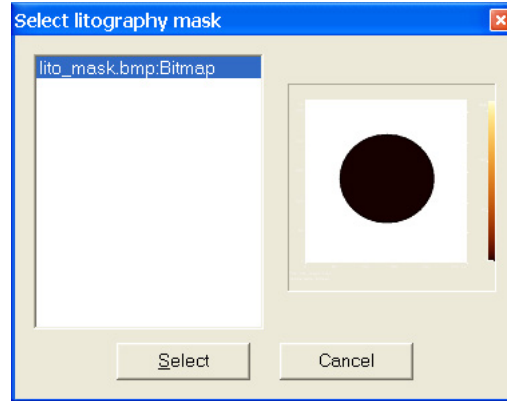

Figure 2.8. Selecting a mask image for lithography.
- Lithography - lithography mode. Lithography can be performed in two modes - lithography by a probe (Z), and lithography by a voltage (Ut). On the Litography tab user can choose Mask image, litography mode and parameters for probe-sample interaction during lithography process. By pressing the Select button, the user can call a window that allows to choose mask image (fig. 2.8). If mask dimensions (in points) doesn't coincide with dimensions of scanning region then there are 3 possibilities: 1) Mask resolution will be changed; 2) centers of the mask and the region will be superposed; 3) Dimensions of scanning region will be changed to dimensions of the mask. In the Z mode, the scanning goes in two stages. During the first stage, surface profile in forward (trace) and backward (retrace) direction is acquired. During the second stage, the average slope plane is calculated and a scaled image mask scale with Z offset from 0 to Z is added to this plane. A probe during scanning traces the surface obtained at the second stage.